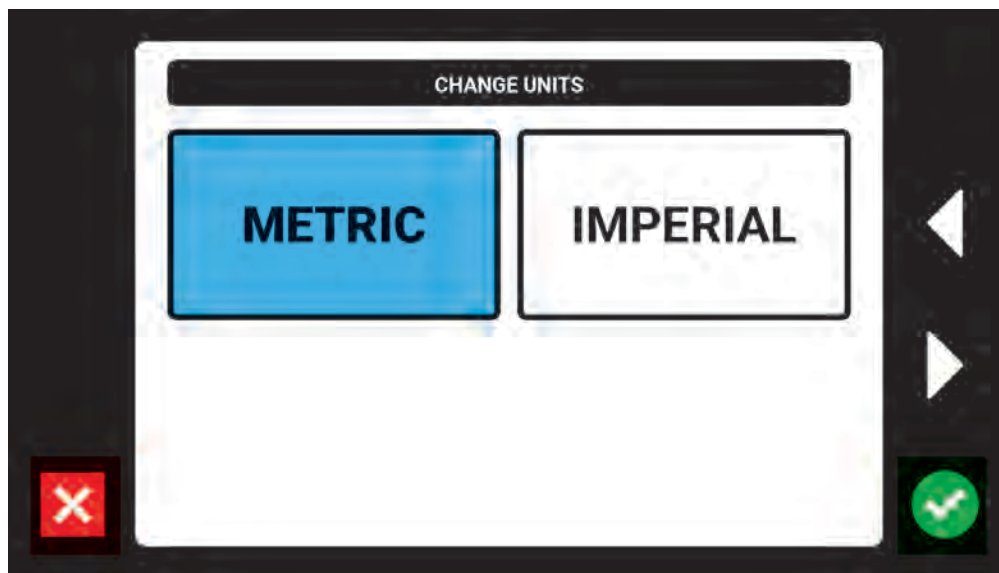

Figure 5-19 Change Units Screen
1. Go to the Settings Screen (Section 5.7.1). Scroll through the setting options and select "Change Units". Below is the Change Units Screen (Figure 5-19).